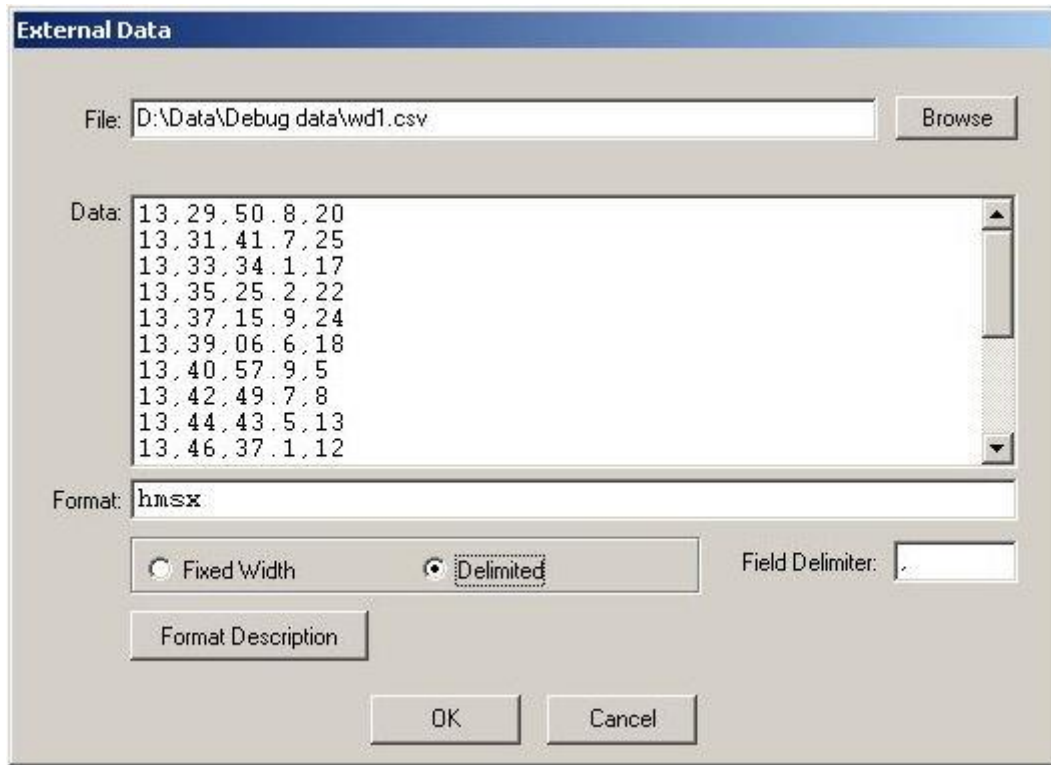

Figure 7-9: Precondition – External Data, delimited
2. Right click on the plot and from the popup menu select *External Data* to invoke the External Data Dialog (see Figure 7-9).
Each data field, regardless of length, is represented by a single format specifier. Refer to Figure 7-9 below for an example. In this example year and Julian Day are not present in the records.